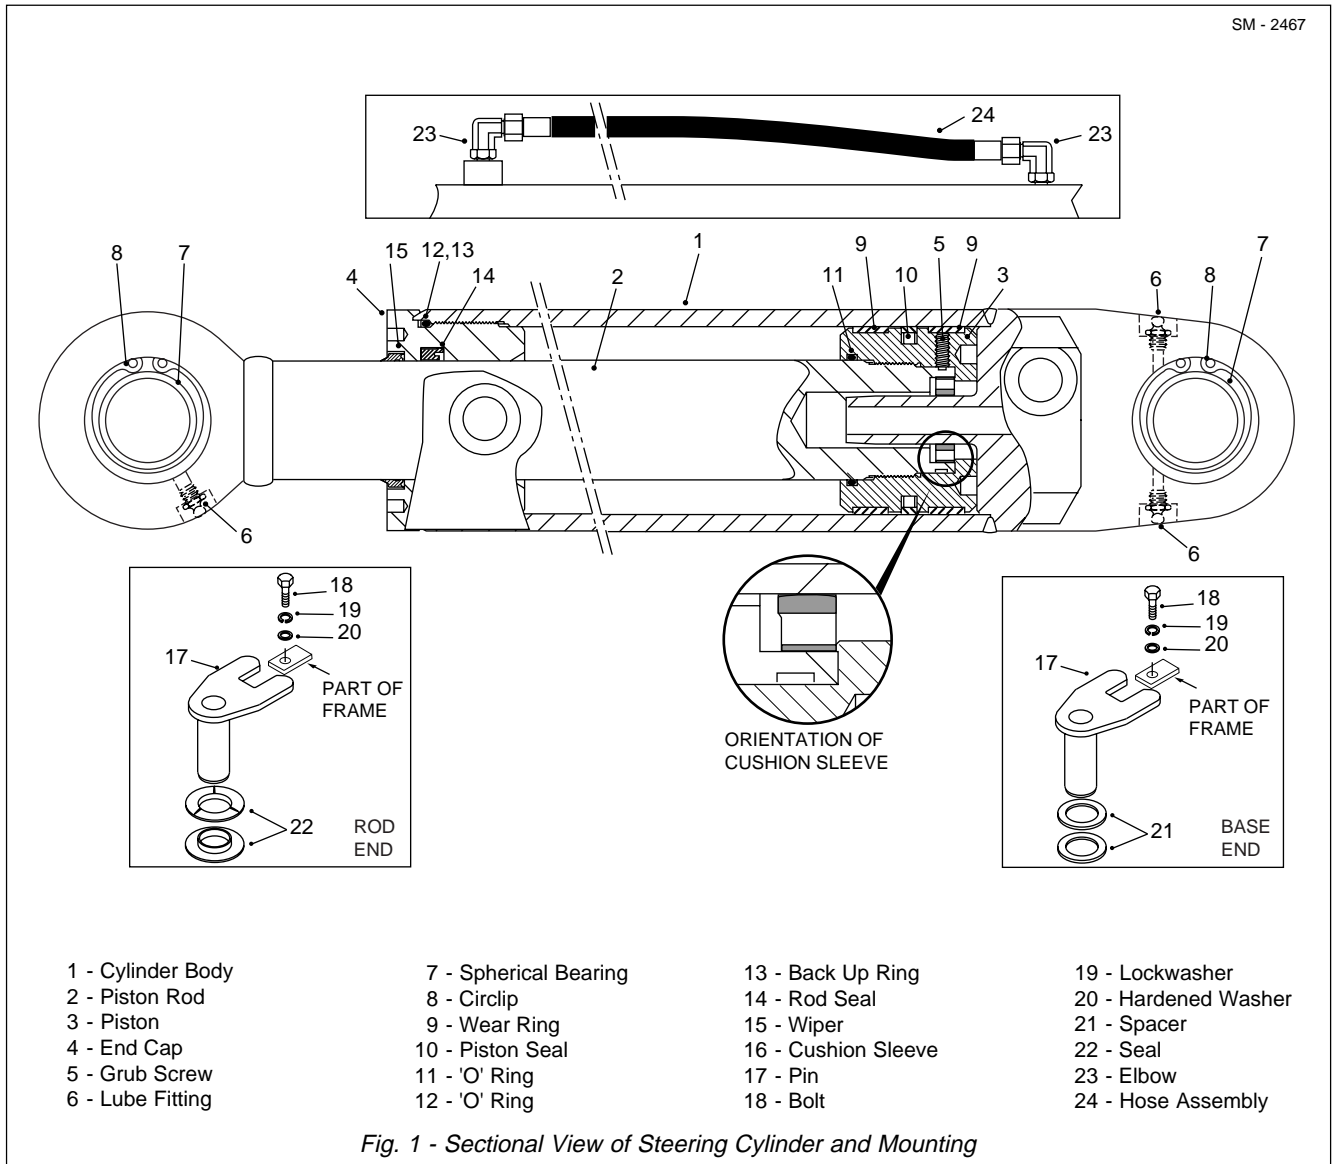

Fig. 1 - Sectional View of Steering Cylinder and Mounting
Numbers in parentheses refer to Fig. 1.
Numbers and letters in parentheses refer to Fig. 1.
Numbers in parentheses refer to Fig. 1
1. Press spherical bearings (5) in base end of cylinder body (1) and piston rod (2) end. Secure spherical bearings (5) with circlips (6).
2. Install new rod seal (14) into bore of end cap (4) with the lip pointing towards the internal face of end cap (4). Install new wiper (15) into bore of end cap (4).
3. Install new back up ring (13) and 'O' ring (12) in xternal groove of end cap (4).
4. Guide end cap (4) assembly onto piston rod (2), taking care not to damage rod seal (14) on the thread.
5. Install cushion sleeve (16) into piston rod (2) counter bore. Note correct orientation, spigot face abuts counter bore face (see Fig. 1).
6. Install new 'O' ring (11) into internal groove of piston (3).